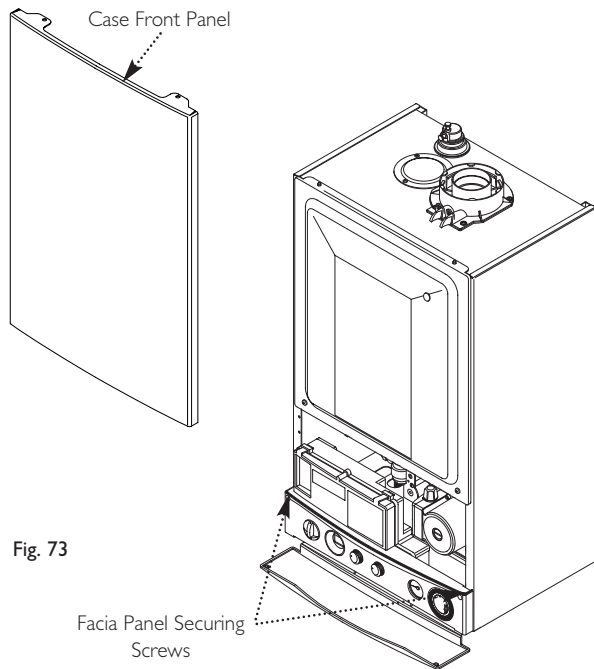

Fig. 73
5. Slacken the screws securing the facia panel. Lift the outer case panel so that its securing tabs are clear of the facia. Remove the panel, allowing the facia to hinge down (Fig. 73).